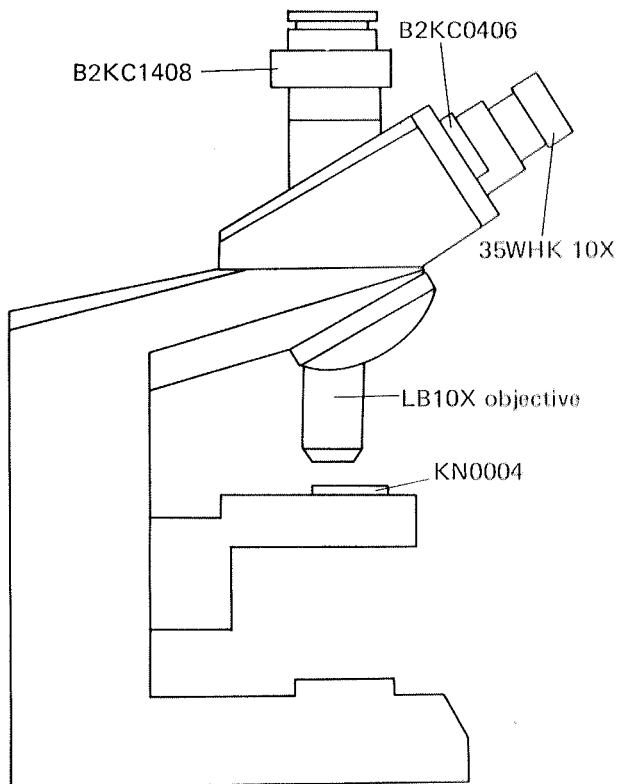

Fig. 13-9
- a) Place BH2-TR and the following Jigs on the Microscope Stand as shown in Fig. 13-9:
(See Fig. 13-9)